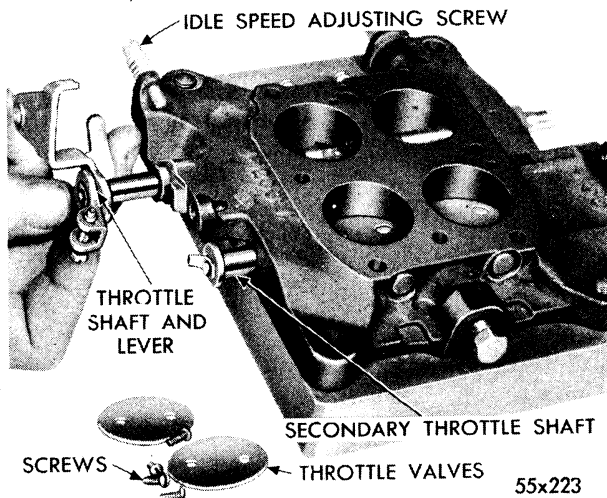
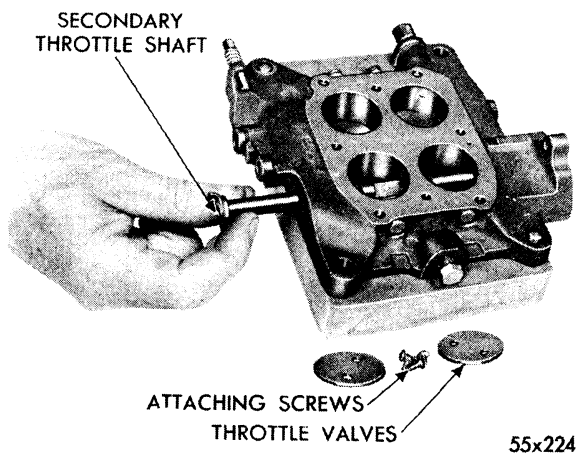
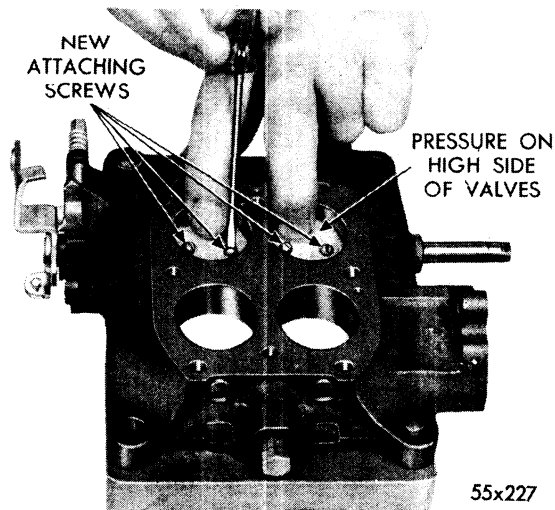

Fig. 9—Removing or Installing Primary Throttle Shaft and Lever
Fig. 10—Removing or Installing Secondary Throttle Shaft
Fig. 14—Installing Primary Throttle Valves
- (5) Remove the screws that hold the primary throttle valves to the throttle shaft.
- (6) Lift out valves, then withdraw the throttle shaft, using a twisting motion, as shown in Figure 9.
- (7) Remove the screws that hold the secondary throttle valves to the throttle shaft.
- (8) Lift out valves, then withdraw the throttle shaft using a twisting motion, as shown in Figure 10.
- (9) **The primary and secondary valves are not interchangeable and should be kept separate in order that they may be replaced in their original bores.**
- (1) Check the throttle shaft for excessive wear in the throttle body. If wear is extreme, it is recommended that the throttle body be replaced rather than installing a new throttle shaft in the old body.
- (2) Slide the primary throttle shaft and lever in the throttle body, as shown in Figure 9.
- (3) Slide the primary valves into position, then install new screws; do not tighten.
- (4) Hold the valves in place with the fingers, as shown in Figure 14. (Fingers pressing on the high side of valves.)
- (5) Tap the valves lightly with a screwdriver to seat in the throttle bores. Holding the valves
- (6) Slide the secondary throttle shaft and lever into the throttle body with the tang on the lever pointing toward the fast idle cam boss, as shown in Figure 10.